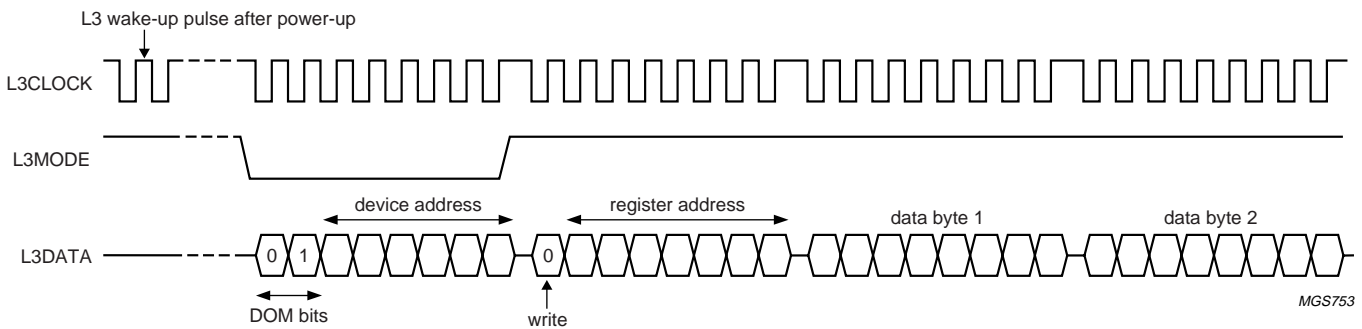

Fig.6 Data write mode (for L3 version 2).
The address mode is used to select a device for a subsequent data transfer. The address mode is characterized by L3MODE being LOW and a burst of 8 pulses on L3CLOCK, accompanied by 8 bits (see Fig.6). The data transfer mode is characterized by L3MODE being HIGH and is used to transfer one or more bytes representing a register address, instruction or data.
Remark: when the device is powered up, at least one L3CLOCK pulse must be given to the L3 interface to wake-up the interface before starting sending to the device (see Fig.6). This is only needed once after the device is powered up.
1. Addressing for write data: bit 0 is logic 0 indicating a write action to the destination register, followed by bits 1 to 7 indicating the register address (see Fig.6).
The data write mode is explained in the signal diagram of Fig.6. For writing data to a device, four bytes must be sent (see Table 6):